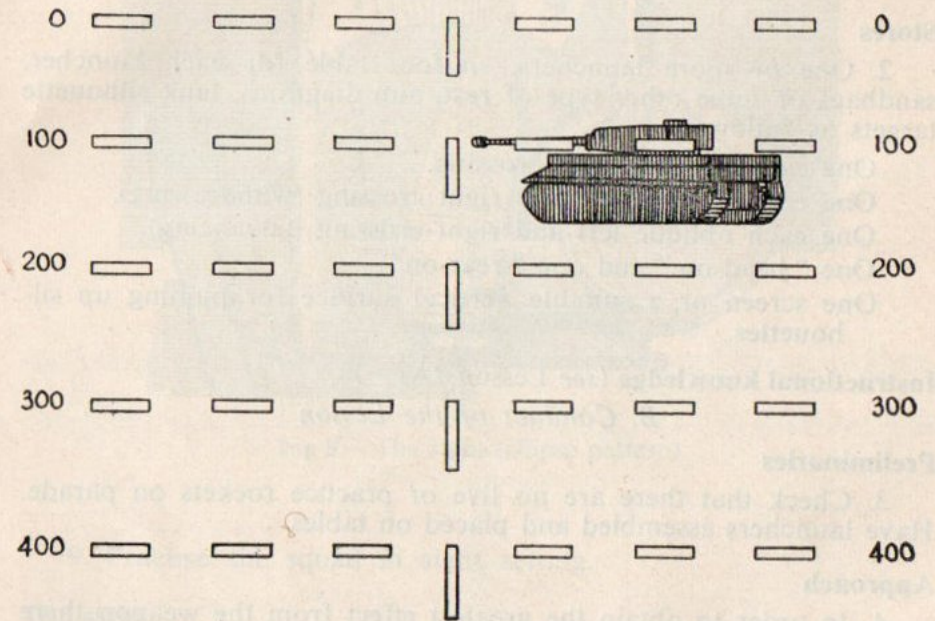

Fig 8.—Oblique crosser moving away—wide angle—20 mph at 100 yards—right to left
29. For other angles the firer will judge the aim off in relation to the above, *eg*, for a tank crossing almost at right angles the aim will be virtually as for a direct crosser, except that the point of aim will be slightly above or below the centre of the tank, according to whether it is approaching or going away, and slightly less lead will be taken (*see* Fig 8).